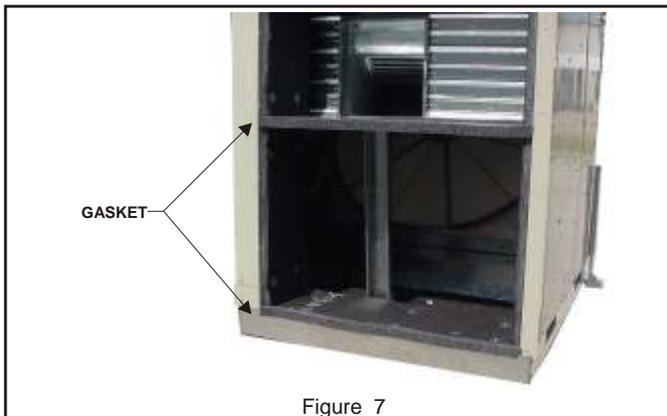

Figure 7
- Apply $\frac{3}{4}$ " x $1\frac{1}{4}$ " gasket to top and bottom decks of ERS as shown in the figure. **See Figure 7.**